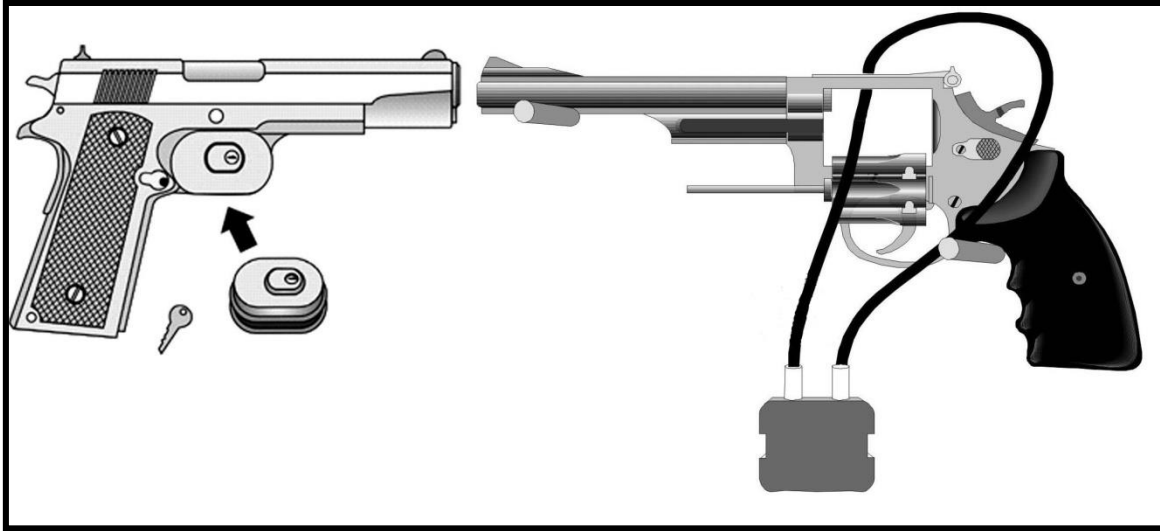

Figure 132. Cable and Trigger Locks
- rendered inoperable by using a secure locking device (Figure 132) and stored in a securely locked container (Figure 133), receptacle or room that cannot be easily broken open or into, or